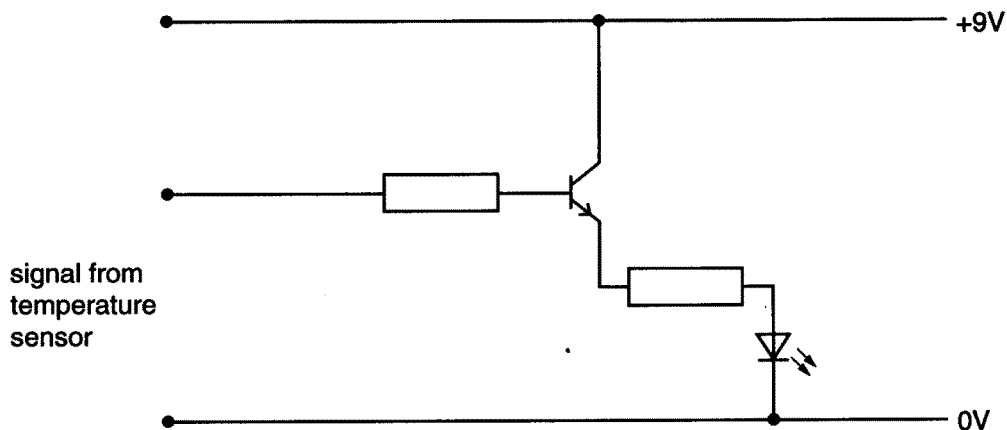

Fig. 7
Fig. 7 shows the circuit for an electronic thermometer.
- (c) In the circuit in Fig. 7, explain the reason for using the resistor in series with the LED.